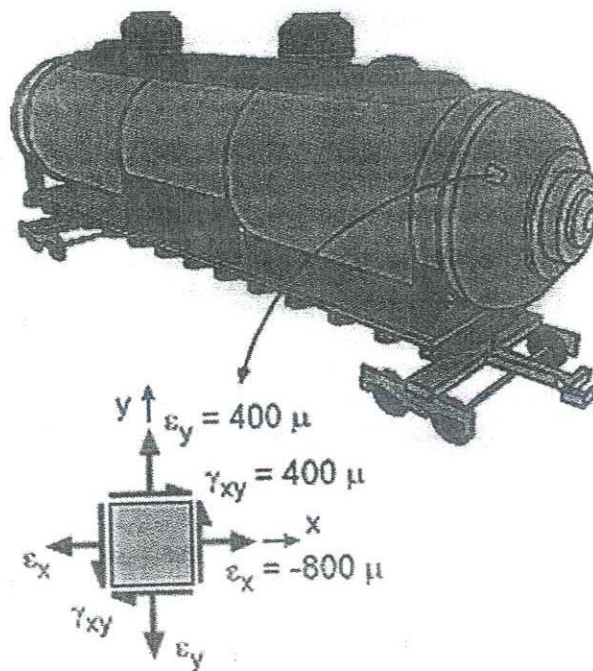

Figure Q4
- Q4. To better understand the strain state for an old oil tanker, strain gages were attached to the surface of the tanker at the location shown (**Figure Q4**). With the help of the strain gage results, it was determined that the strains at that location were  $\epsilon_x = 800 \mu$ ,  $\epsilon_y = 600 \mu$ , and  $\gamma_{xy} = 200 \mu$ .